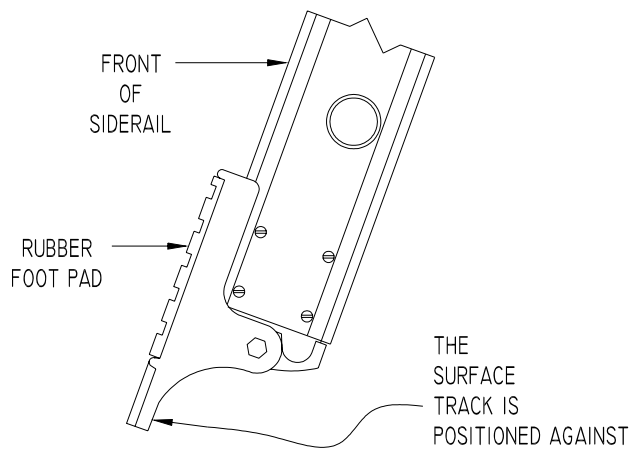

Figure 5
3. When tightening the nut for the swivel shoe, the shoe must be free to rotate into the spur plate operating position shown in Figure 5. With the spur plate in its operating position, the rubber foot pad should face towards the user.